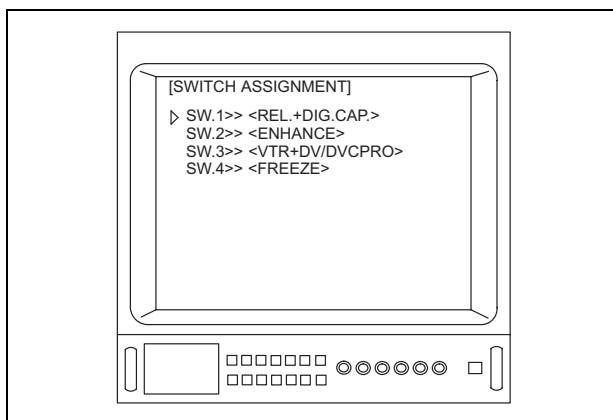

Figure 5.59
4. Depress the menu switches “◀” or “▶”, or the “↑/↓/←/→” key on the keyboard to move the arrow “▷” to the switch number that you would like to set (for example, “SW1”) (see Figure 5.59).
- The number of switches displayed (see Figure 5.59) depends upon the number of the remote control switches on the camera head or videoscope.
- Depending upon the number and settings of the remote control switches, the menu shown in Figure 5.59 may appear different from that displayed on the video monitor.